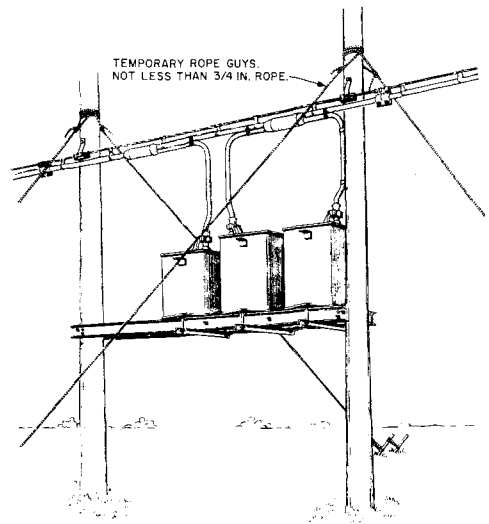

Fig. 12—Temporary Sideguys
(a) Using a 3/4-inch rope, place temporary sideguys from the top of each pole to digging bars, in tandem driven in the ground, to large trees, or to any suitable and safe support (Fig. 12).
- (f) Place the strut upright under and midway between the channel irons or I-beams about three feet from the pole to be replaced. Set the strut on a 3- or 4-inch by 12-inch by 2-1/2 foot plank, preferably oak or some other hard wood, placed on level ground. Place a similar plank between the upper end of the strut and the bottom of the channel irons or I-beams. Fig. 12 shows the general method of placing this strut.